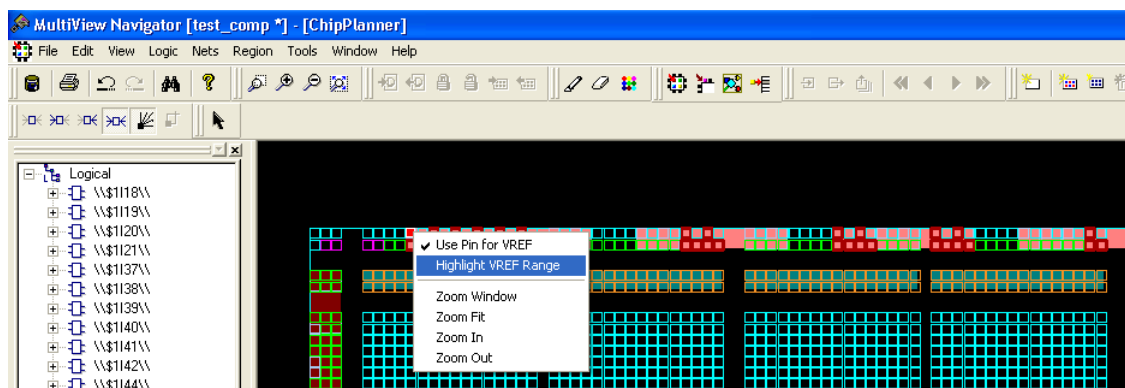

Figure 8-14 • VREF Range
4. Right-click and then choose **Highlight VREF range**. All the pins covered by that VREF pin will be highlighted (Figure 8-14).